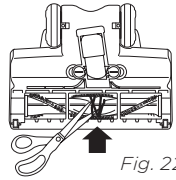

Fig. 22
- 3 Remove any string, carpet fibers, or hair that may be wrapped around the brushroll. **(Fig. 22)**